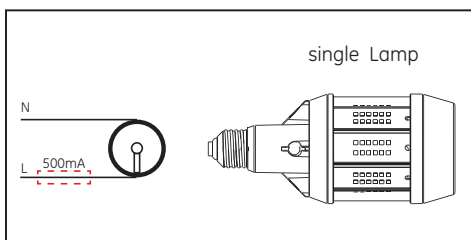
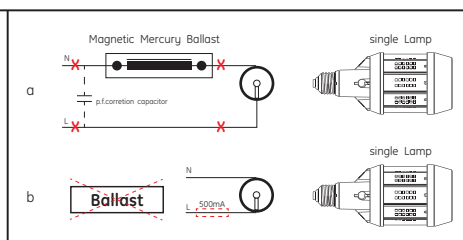

Figure 2. New Luminaire without ballast
Figure 3. Bypass Ballast
- 3) Establish direct wiring from mains to lamp holder as per figure 2 or bypass the magnetic mercury ballast by cutting all wires that connect to ballast and cutting wire away from lamp holder as show in figure 3. And Rewire power source directly to wires leading to lamp holder.